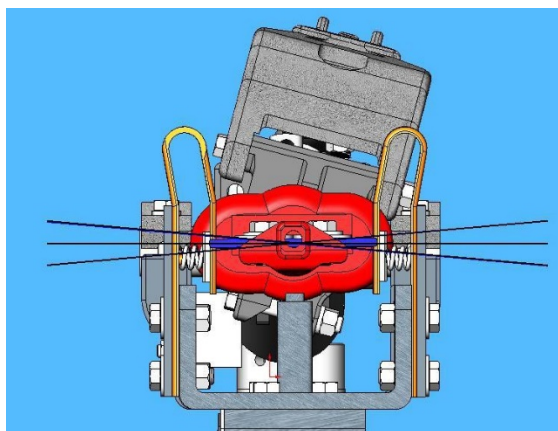

Figure 7: Blade Tip Must Be As Flat in the Jaw as Possible
- 2.1.5. These switches will have adequate contact pressure if the blade has rotated to within plus or minus 5° of perpendicular in the contacts as shown in **Figure 7**. Adjustment of the bearing stop may be required.